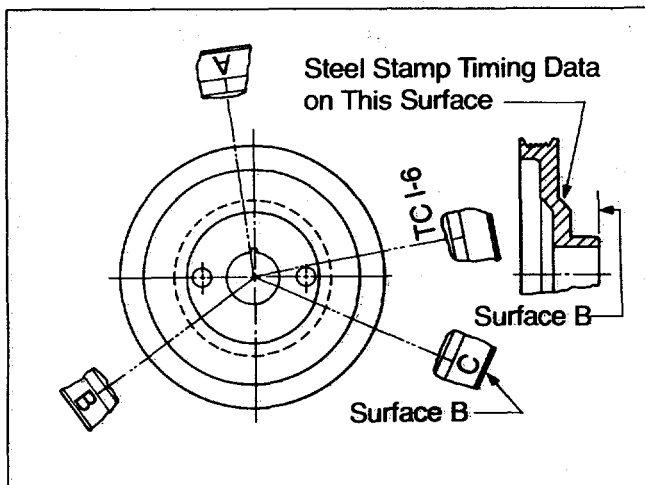

Fig. 2-52, (K11920). Accessory drive pulley marking - KT(A)-1150
1. Bar the engine in the direction of rotation until "B" mark on the pulley, Fig. 2-52, is aligned with pointer on the gear case cover. In this position, both valve rocker levers for cylinder No. 3 must be free (valves closed). The injector plunger for cylinder No. 6 must be at top of travel; if not, bar the engine 360 degrees, realign the marks with the pointer.